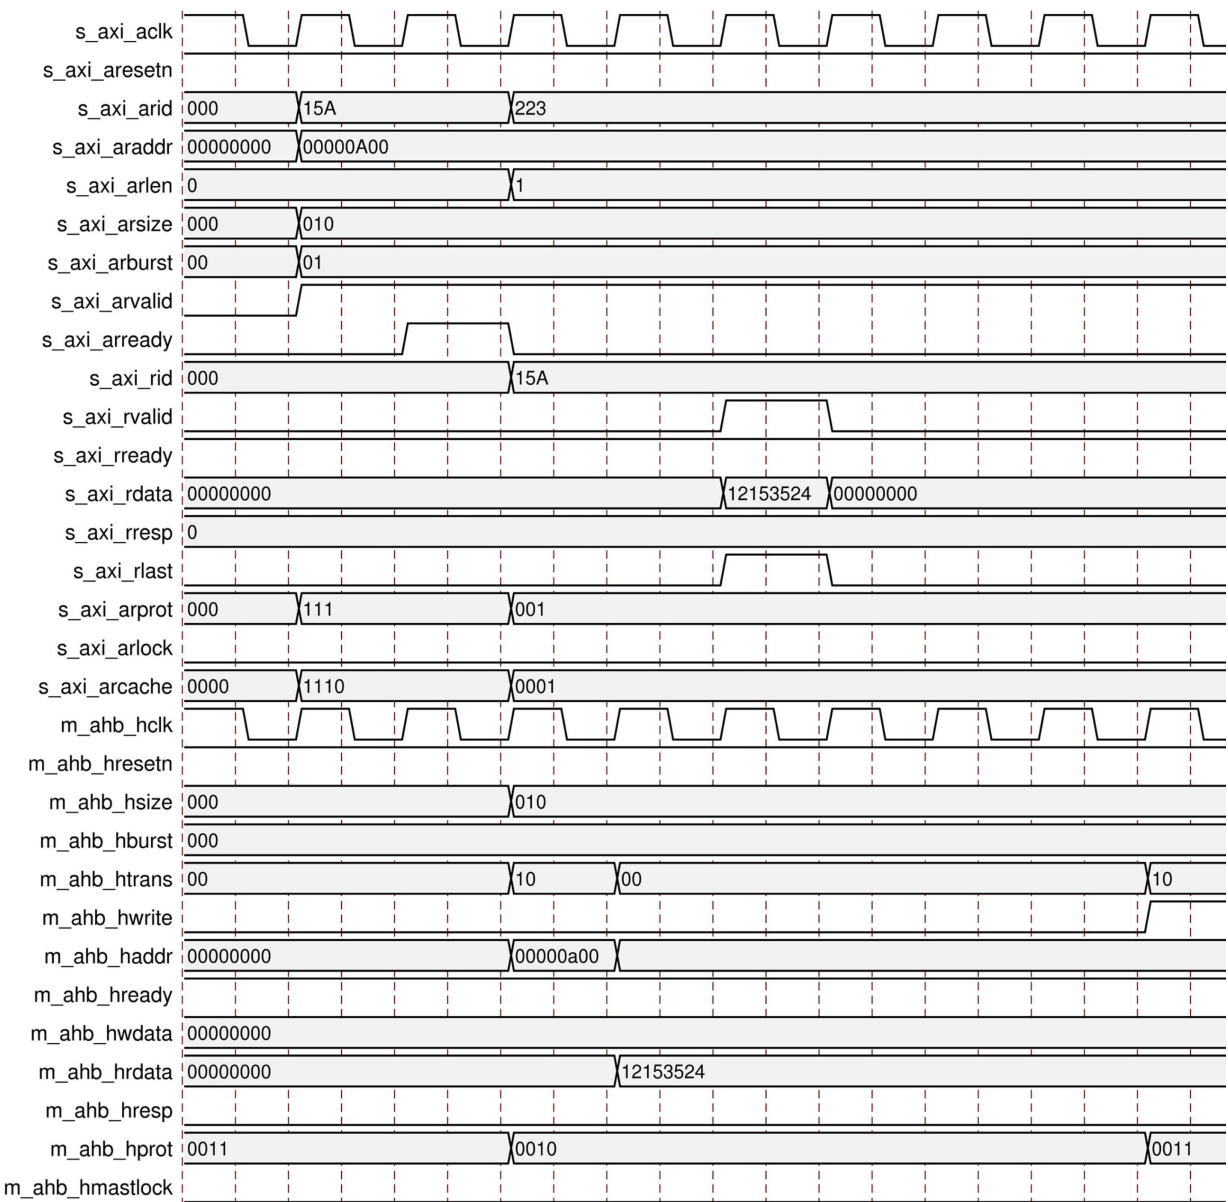

Figure 3-1: AXI4 Incrementing Burst Read Transfer of Length 1
1. AXI4 incrementing burst read transfer of length 1 is shown in Figure 3-1.